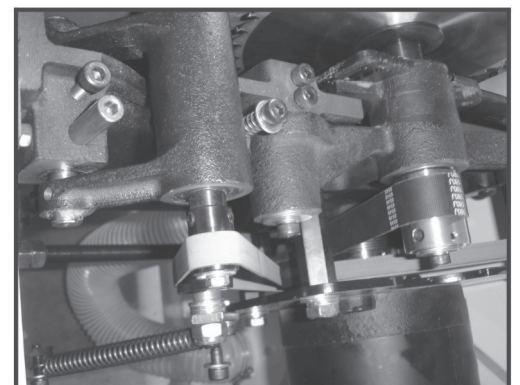

Fig. 21
2. Place the flat belt on the scoring blade arbor (Fig. 21), lift the scoring motor and slide the flat belt over the scoring motor pulley.(Option)